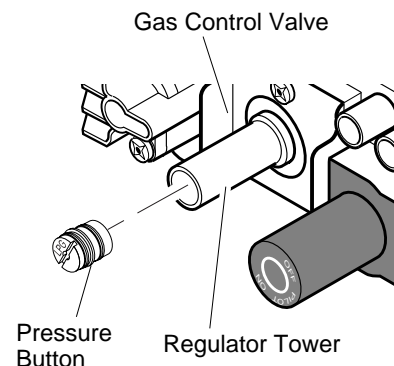

Figure 17 - Replacing the Pressure Button in the Propane/LP position
3. Reverse the pressure button and replace into regulator tower (see Figure 17).